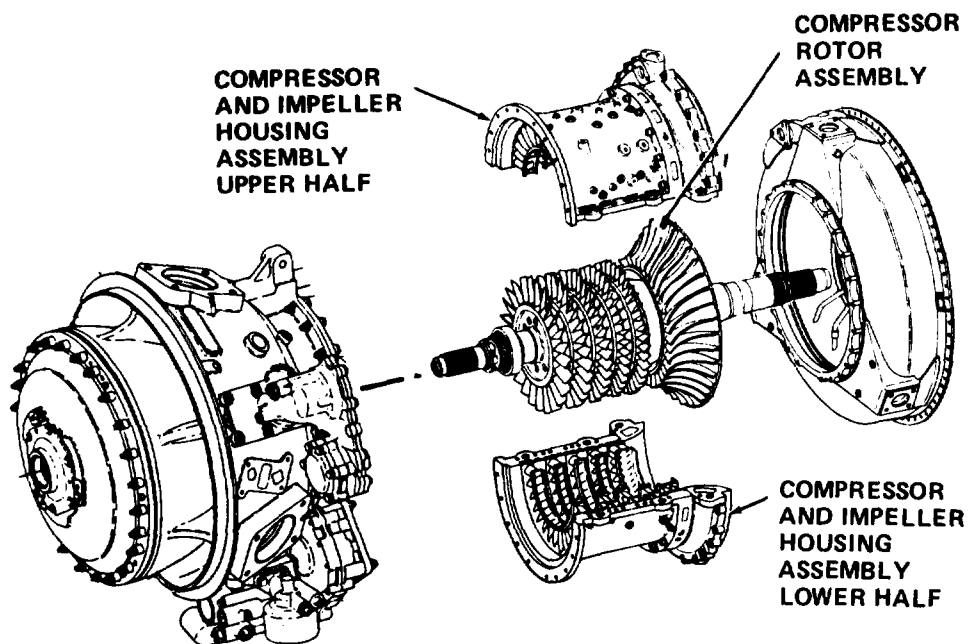

Figure 1-8. Compressor Section (T53-L-13B/703 Engines)
**1-12. Compressor Section (T53-L-13B/703 Engines) (See figure 1-8.)**